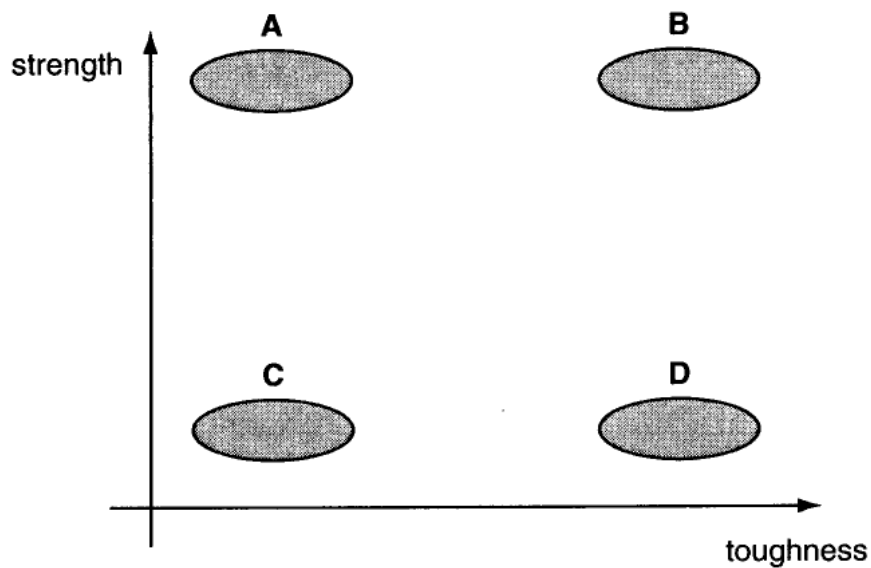

Fig. 1.1
- 1 Fig. 1.1 shows a plot of strength against toughness for different materials. Four areas have been shaded and labelled **A**, **B**, **C** and **D**.